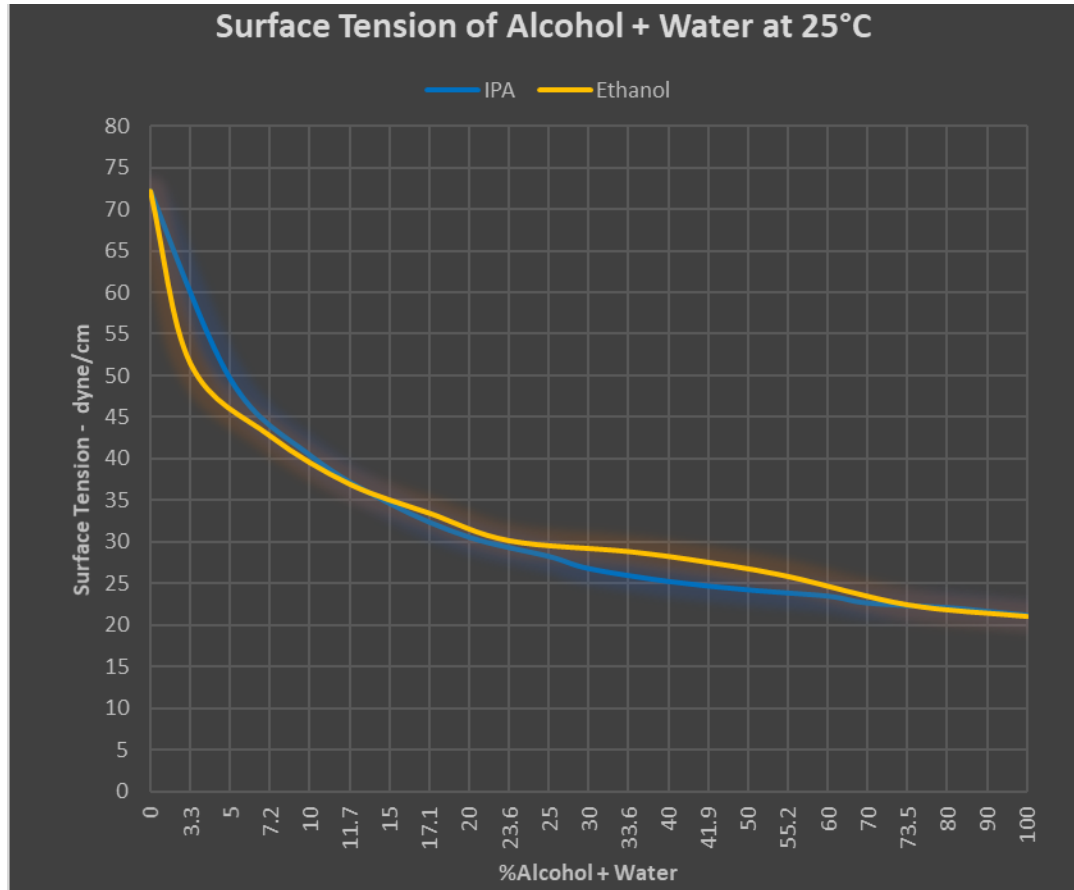

Figure 39 – Water + Alcohol Surface Tensions of at 25°C
VIII.8.5 **Figure 39** shows that **Ethanol and** IPA will reduce the water surface tension improving wetting similar to a nonionic surfactant with about 15% to 20% being the optimum concentration for a surface tension of about 34.6 to 30.5 dynes/cm respectively. Data for **Figure 39** is from “*Surface Tension of Alcohol + Water from 20 to 50°C*”, Gonzalo Vazquez, Estrella Alvarez, Jose M. Navaza, *Journal of Chemical and Engineering Data*. 1 May 1995 (31). Various forums discuss using just DIW and a few percent IPA and getting improved cleaning, especially for particulate. This result is valid because even 2.5% IPA in water can reduce the surface tension to about 60 dynes/cm, reducing the water-IPA solution contact angle with the record improving the wetting and improving the cleaning especially for fine particulate.
VIII.10.1 *Static Charge Removal with IPA Solution, Tadahiro Ohmi, Seiji Sudoh, and Hiroyuki Mishima, IEEE Transactions on Semiconductor Manufacturing, Vol. 1, No. 4. November 1994.* This article tested the ability of IPA+water solutions to remove charge from Teflon™ (PTFE plastic). Teflon™ per **Figure 29** is one of the most negative materials on the Triboelectric series and has a very low critical surface tension of about 19 dynes/cm. The paper demonstrated the ability of 20% IPA + water and greater % IPA to dissipate the charge from Teflon™. Less than 20% IPA + water did not. The explanation is that 20% IPA + water from **Figure 39** has a surface tension of about 30 dynes/cm and this is able to wet the Teflon™ enough to dissipate the static charge. So, any solution that will ‘wet’ the record can remove static charge.